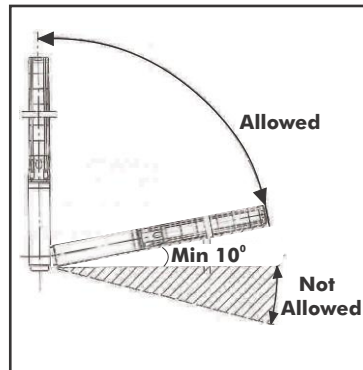

Fig. 2 Pump Axis Limits
- Pumps can be installed either vertically or at an angle, though if installed at an angle the discharge outlet should never fall below 10° to the horizontal plane as shown in Fig. 2. For all angled installations a flow sleeve should be used with a minimum of 0.5m water depth above the pump to prevent the formation of a vortex.